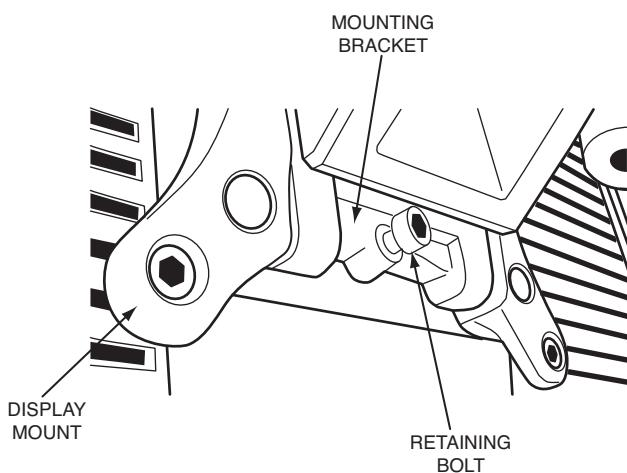

Fig. 4 — Bolt Display Screen to Arm
2. Two hooks secure the display screen to the mounting bracket. Hold the display screen until verifying that the display screen is supported by the hooks on the mounting bracket before releasing. See Fig. 4.